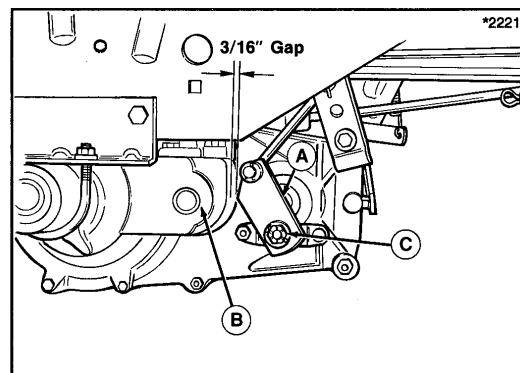
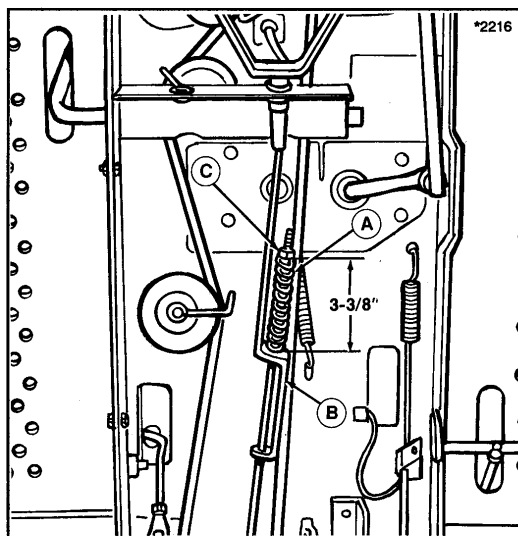

Figure 35. Brake Adjustment (Hydro Model)
Figure 36. Brake Spring Adjustment (Hydro Model)
1. With clutch/brake pedal released, rotate the brake cam (A, figure 35) forward until it stops. There should be 3/16" gap between transaxle housing (B) and rear point of brake cam.
2. If adjustment is required, remove cotter pin and turn adjusting nut (C) until proper 3/16" clearance is achieved. Turning the nut in will decrease clearance and turning the nut out will increase clearance. Reinstall cotter pin after adjustment.
3. Depress the clutch/brake pedal and latch parking brake over footrest. When compressed, the brake spring (A, figure 36) should be 3-3/8", measured between the rod guide (B) and adjusting nut (C).
4. If adjustment is required, turn adjusting nut (C) until proper 3-3/8" spring length is achieved.